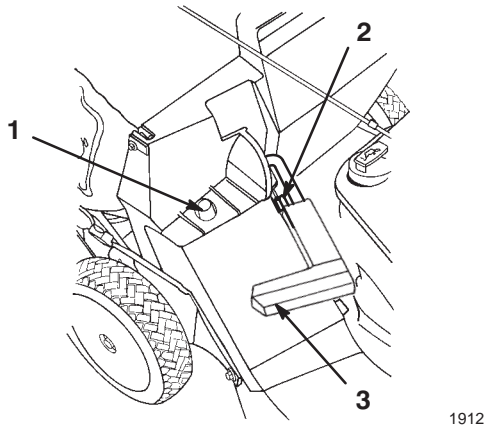

Figure 19
2. Ensure that the discharge door handle is fully forward and that the pin is contacting the catch (Fig. 19).
3. Slide the hole in the bag frame onto the retaining post on the housing (Fig. 19).
2. Raise the discharge door handle and move it forward until the locking pin contacts the catch (Fig. 19).